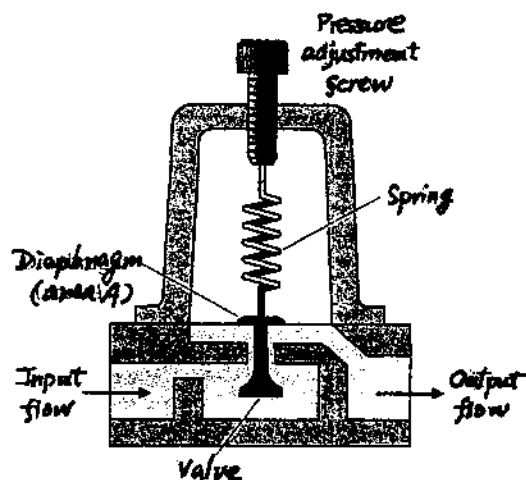

Fig. 1
1. A cutaway view of a commonly used pressure regulator is shown in the Fig.1. The desired pressure is set by turning a calibrated screw. This compresses the spring and sets up a force that opposes the upward motion of the diaphragm. The bottom side of the diaphragm is exposed to the water pressure that is to be controlled. Thus the motion of the diaphragm is an indication of the pressure difference between the desired and the actual pressures. It acts like a comparator. The valve is connected to the diaphragm and moves according to the pressure difference until it reaches a position in which the difference is zero.